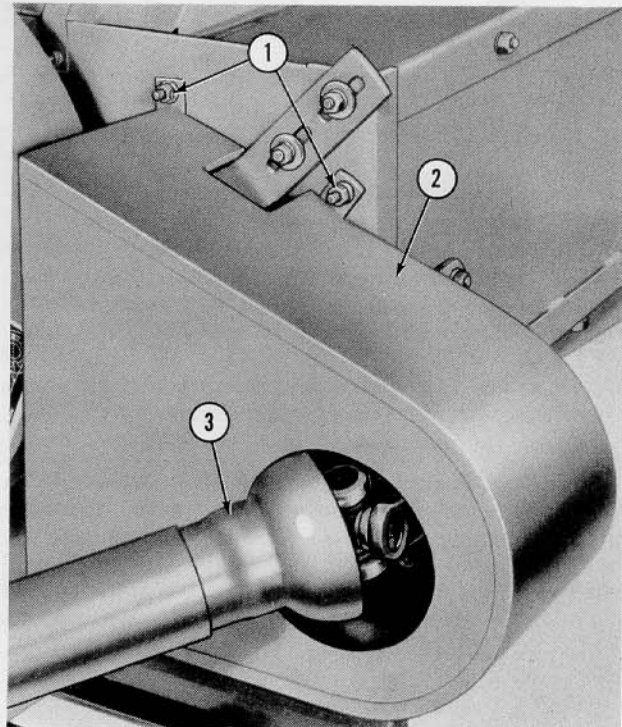

Figure 48
- Slide the P.T.O. clutch and drive chain shield (2), Figure 48, over the power shaft (3) and attach it to the baler with four $\frac{3}{8}$ " x $\frac{3}{4}$ " hex head bolts, lockwashers and nuts. See (1).